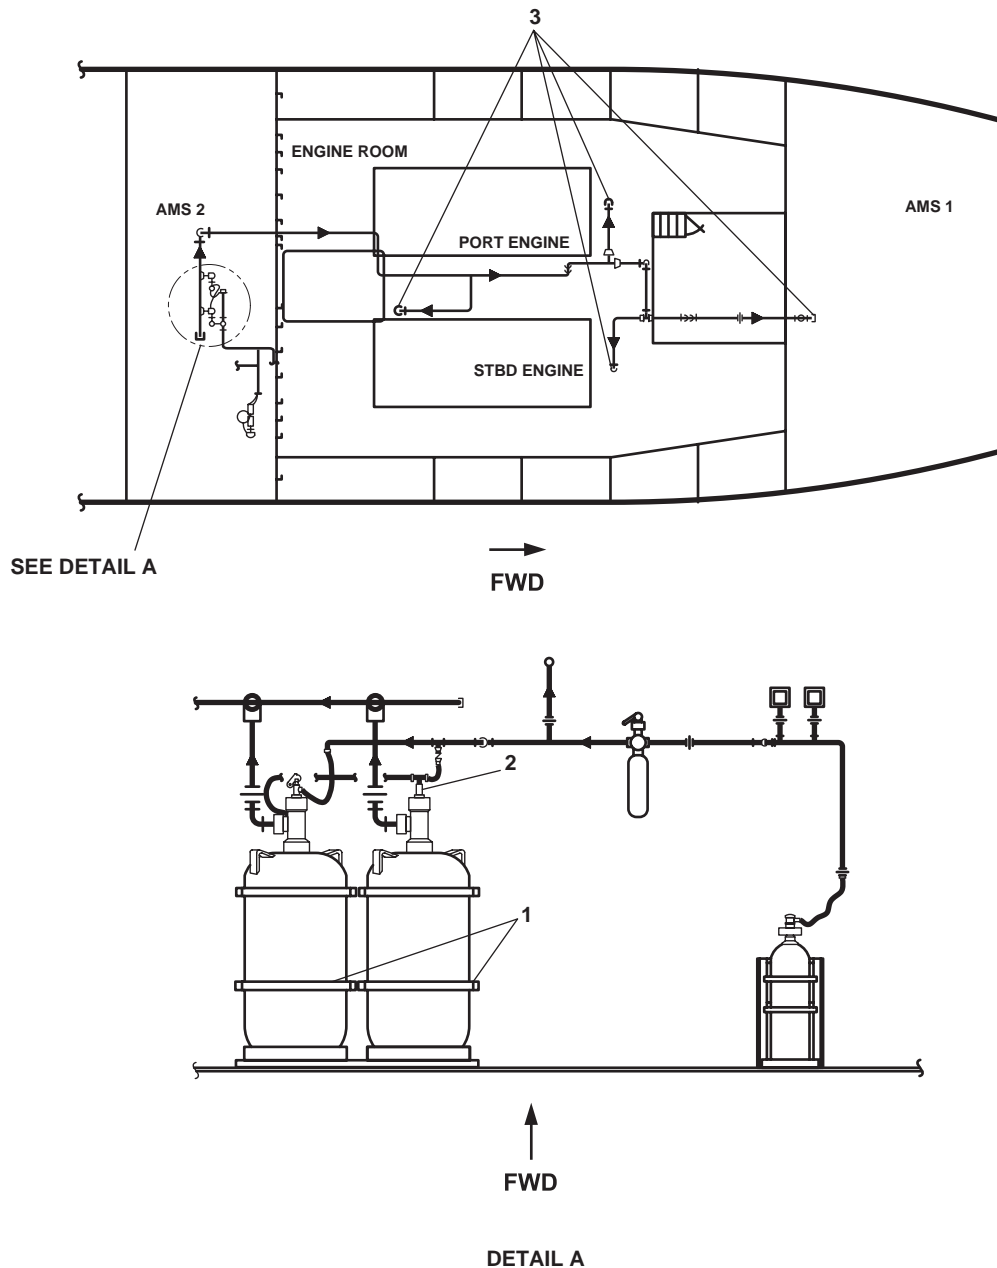
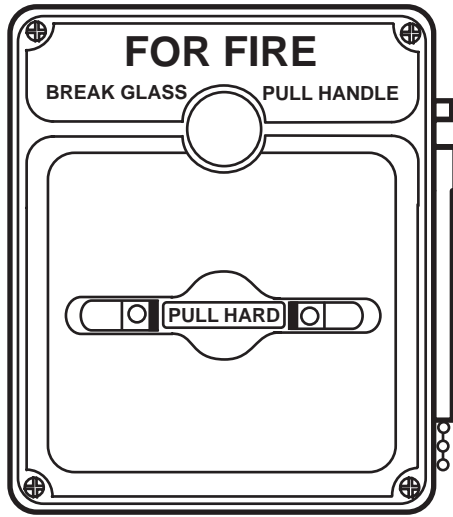

Figure 1. FM-200 Component Locations (Overhead Systems)
Figure 3. Interior FM-200 Pull Box
The engine room and AMS 1 are fitted with a FM-200 fire suppression system. The system is a manually actuated, stand-alone, total flooding fire suppression system. The system is capable of extinguishing Class A, Class B, and Class C fires when properly deployed. The system consists of two 600 lb (272 kg) FM-200 cylinder assemblies (figure 1, item 1), a 200 lb (91 kg) FM-200 cylinder assembly (figure 2, item 1), control heads (figures 1 and 2, item 2), discharge nozzles (figures 1 and 2, item 3), and FM-200 pull boxes (figures 3 and 4).